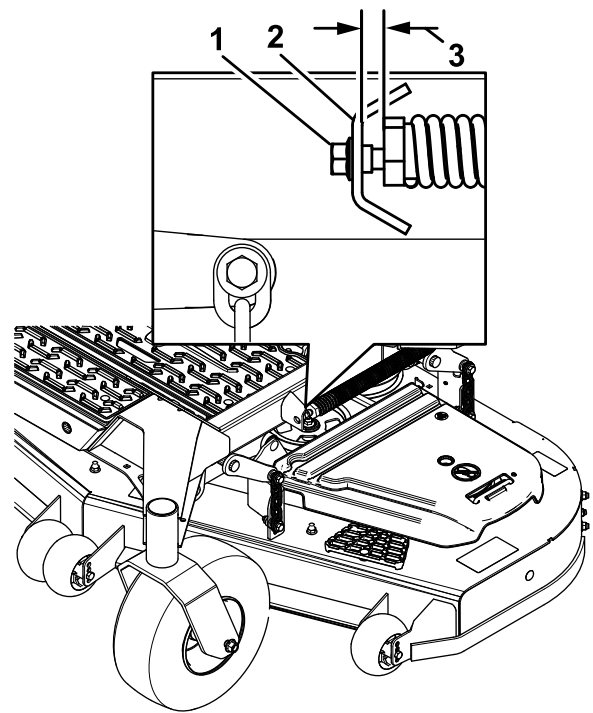

Figure 100
10. Slowly loosen the adjusting screw on the lift-assist spring until you can remove the screw (Figure 100).